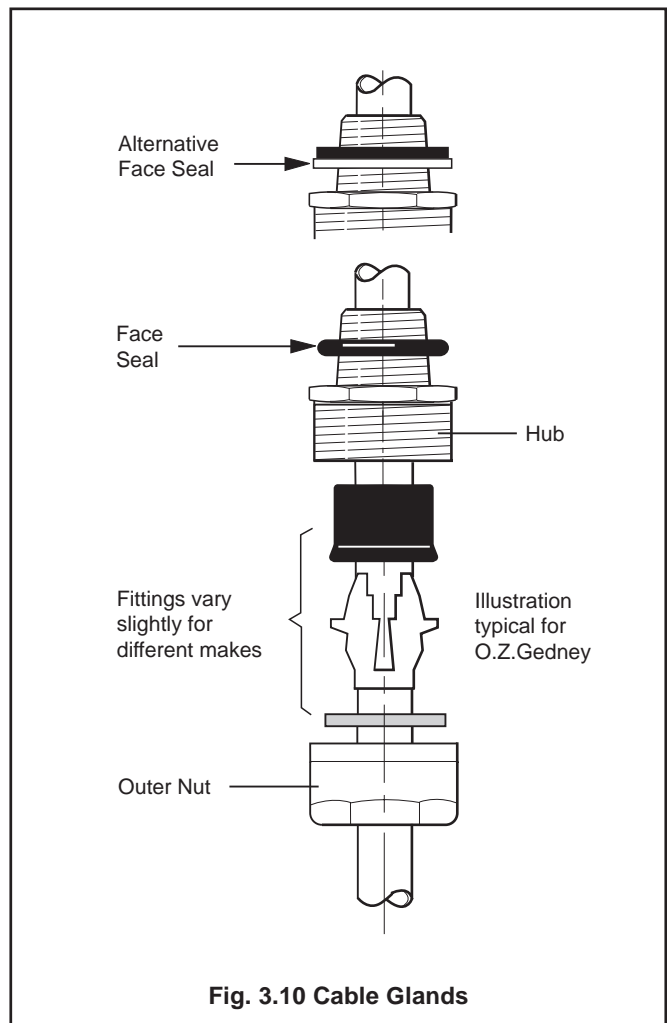

Fig. 3.10 Cable Glands
3.6.3 Cable Glands (N. American – 0.5") – Fig. 3.10